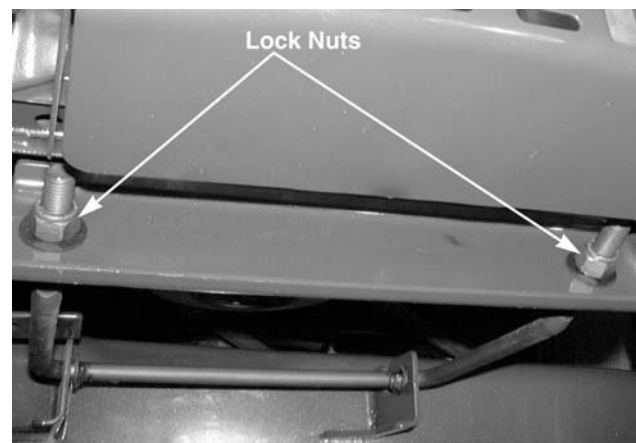

Figure 9-4.
6. Locate both lock hex nuts on the front side of the deck stabilizer bracket. See Figure 9-4.